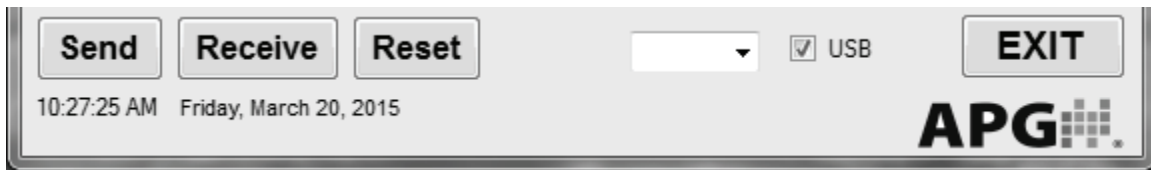

Figure 3.14
Below the Sensor Readings and Communication Status area are four Control Buttons. On the left side are three sensor communication buttons: Send, Receive, and Reset. In the middle are a dropdown box and check box for selecting the communication channels. On the right side is the Exit button. (See Figure 3.14)
**NOTE:** The *Reset* button in the I2000SWR software will reset the IRU to factory default settings (See Figure 3.14).